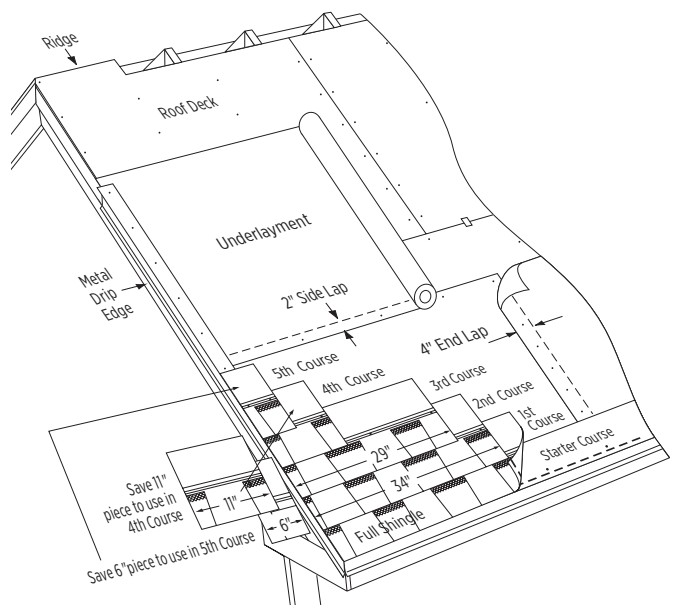

Figure 12-6: Applying the first 5 courses of Landmark TL.
1. Use CertainTeed Swiftstart® Starter, or three-tab self-sealing shingles with the lower tab portions removed. Be sure that the starter shingles are at least 7-5/8" in height. (Figure 12-6).
1ST COURSE: Apply a full shingle at the lower left corner of the roof. Make the lower edge and left edge lie flush with the edges of the starter course (Figure 12-6).